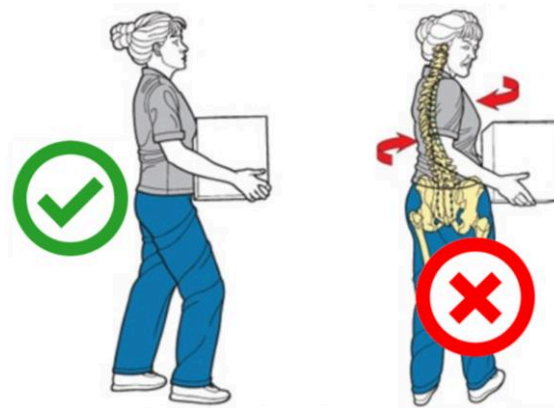

Fig. 6-20 – Handling technique
- Avoid torsions of the bust (Fig. 6-20);